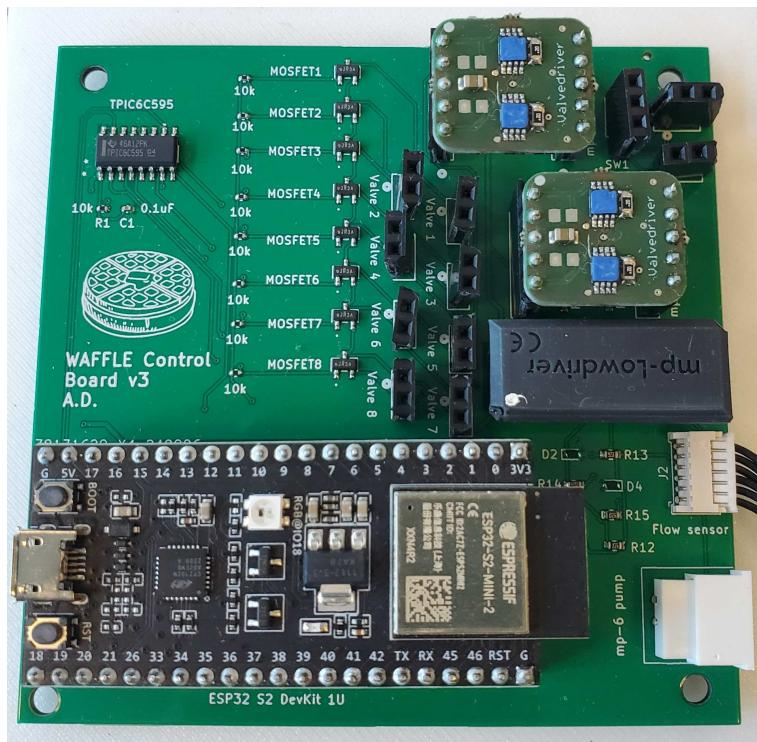

Figure 4: WAFFLE Fully assembled PCBA
5. The final assembled PCB should look as shown in Figure 4.